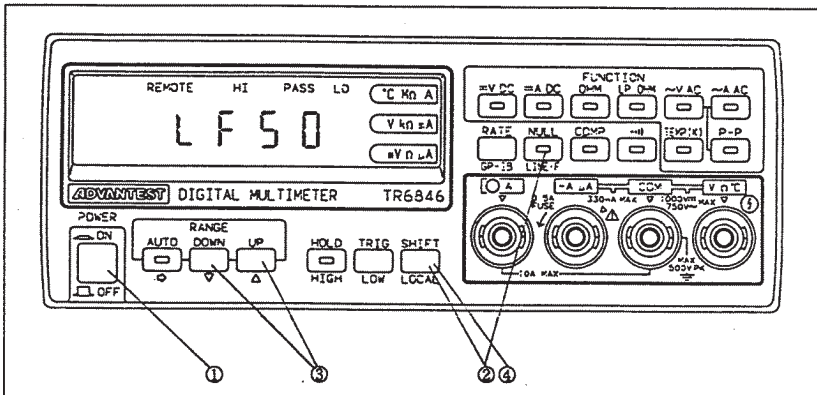

Figure 3-1 Setting the Line Frequency
- Step ① Set the POWER switch to ON.
- Step ② Press \square ^{SHIFT}, and press \square _{LINE F}. The current setting will appear on the display, as shown in Figure 3-1. In this Figure, line frequency of 50 Hz is indicated.
- Step ③ Press \square _{DOWN} \square _{UP}. This will change the display to "LF 50" and "LF 60", and the line frequency setting is changed to 50 Hz, and to 60 Hz.
- Step ④ Press \square ^{SHIFT} again, and the measurement mode is recovered.